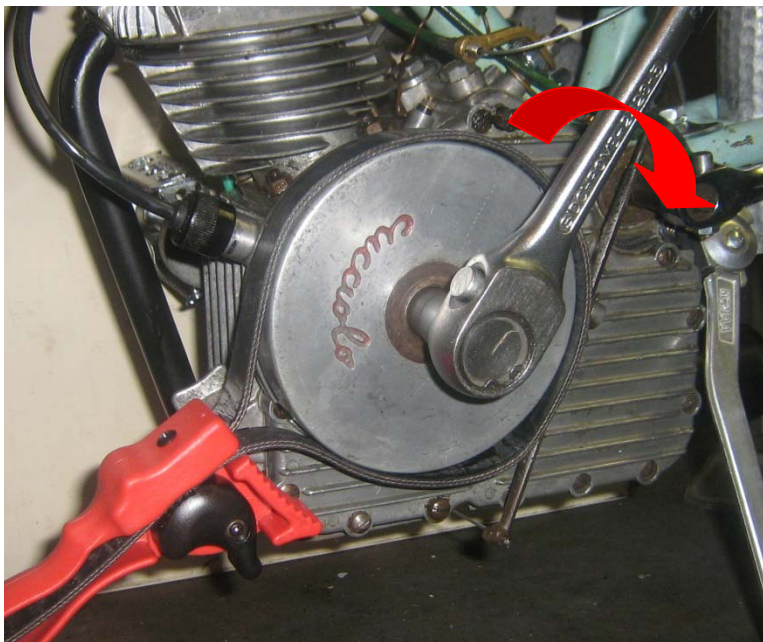

Fig. 7.2F
3. Remove the flywheel retaining nut using a 14mm socket, it may be necessary to clamp the flywheel to facilitate removal (You can use the Oil filter strap shown in **Fig 7.2B** . Turn the nut **CLOCKWISE TO REMOVE**. The nut is a left hand thread nut. **Fig 7.2F** If the head and cylinder have been removed from the engine, a rod can be placed through the conrod small end to lock the engine and flywheel.